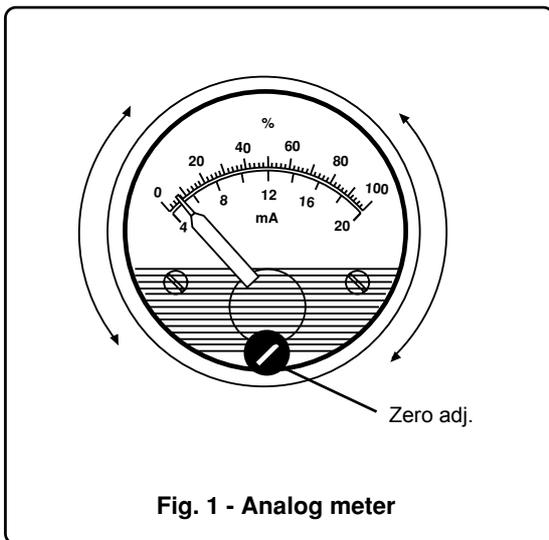

Fig. 1 - Analog meter
The calibration of the analog type meter only involves zeroing. Fig. 1 shows the analog output meter and the location of the zero adjustment.
- with the loop unpowered adjust the zero screw to read exactly the **true zero** mark on the scale (Fig. 1).